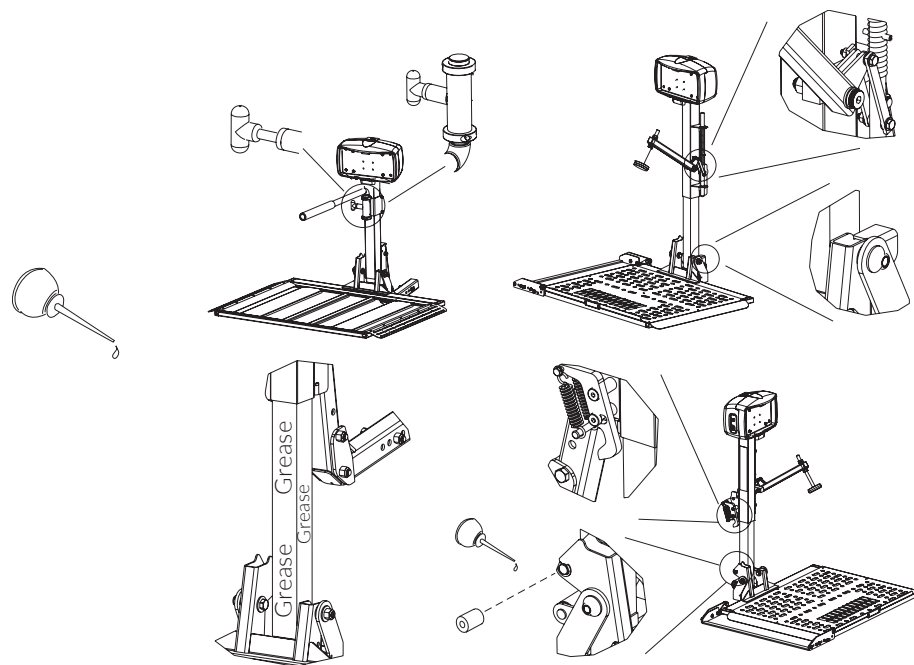

Figure 4-1
- Oil pivot points on all moving parts every Six (6) months.
- Grease the inside vertical square tube once a year (every six [6] months under hard conditions or extreme weather). Lower the platform to the ground and clean the tube with mineral spirits, WD-40® or a good solvent. When clean, grease the square vertical tube shaft with high-grade water-resistant grease such as boat trailer wheel-bearing grease. *See Figure 4-1.*